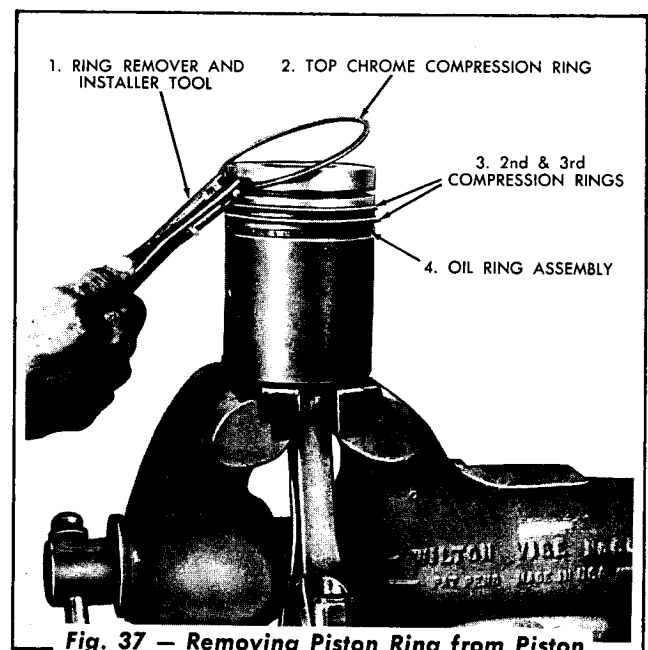

Fig. 37 — Removing Piston Ring from Piston
3. Remove the piston rings using a ring remover and installer tool similar to the one shown in Figure 37. *NOTE: If for any reason the piston rings are removed from the pistons, even after a short period of operation, it is recommended not to install the same rings, because in most cases they will not again seat properly. It is cheaper to install new rings. On the surfaces of new piston rings that contact the cylinder walls, there are tool marks and reasonably rough surfaces which allows for a fast wear-in and*
1. Install the rings on the piston (with side marked TOP towards top of piston) using a piston ring remover and installer as shown in Figure 37. **NOTE:** When installing the rings on the pistons, do not spread the rings more than necessary.